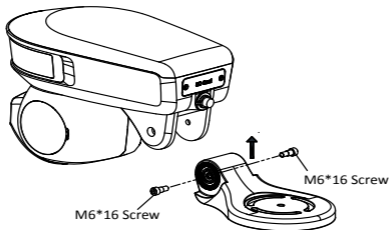

Figure 2-13 Install the Camera to the Bracket
2. Push the base mounting bracket into the space of the bracket hanger, and fix the bracket with two M6*16 screws as shown in Figure 2-13.